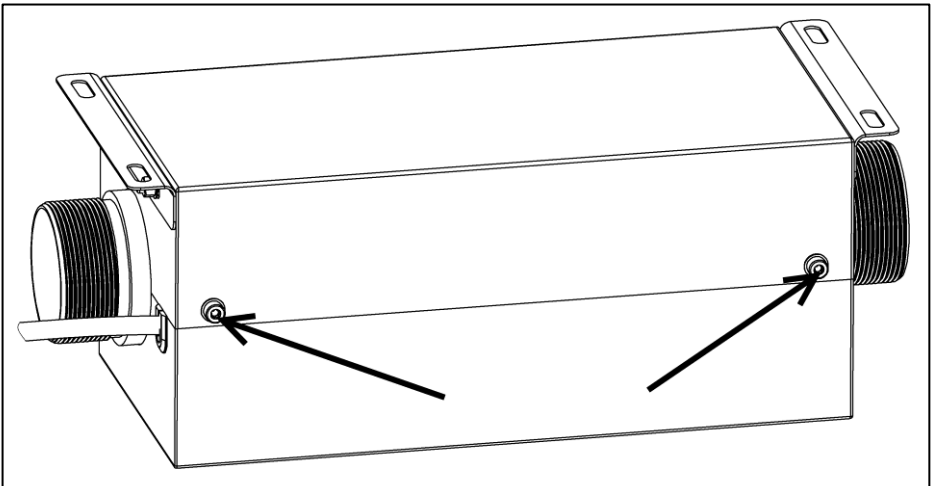

Figure 6
5. Put on the top cover and secure it with the four screws from the installation kit (Figure 6)